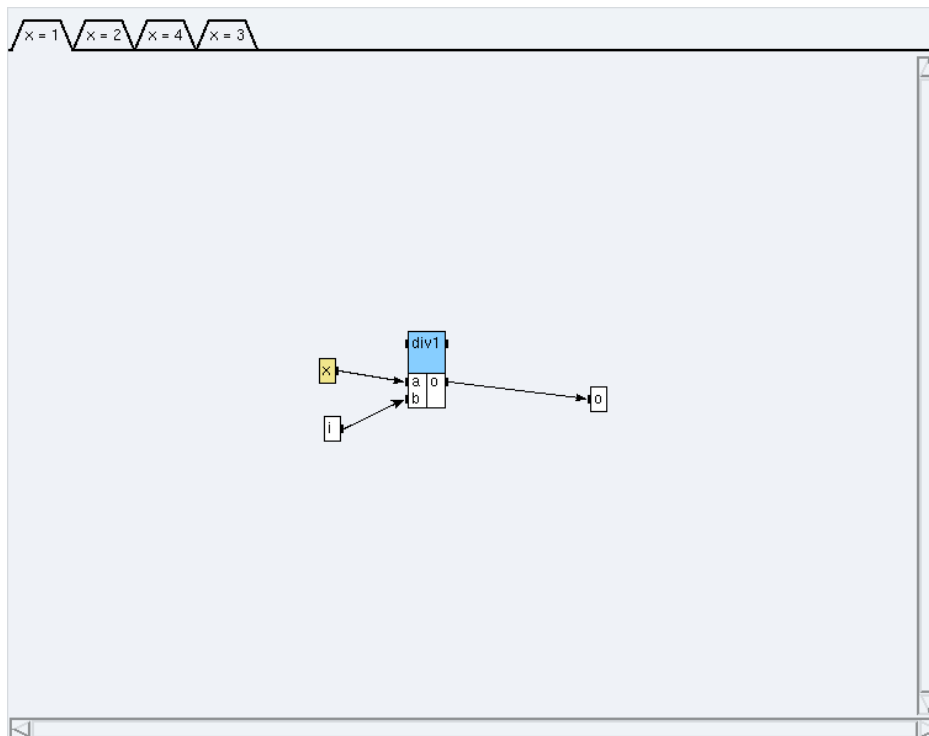

Figure 5.2: Condition x=1
- \* click on the condition **x=1** (*cf.* figure 5.2) and create a reference `div1<1>` to the definition `int/Arit_div`,